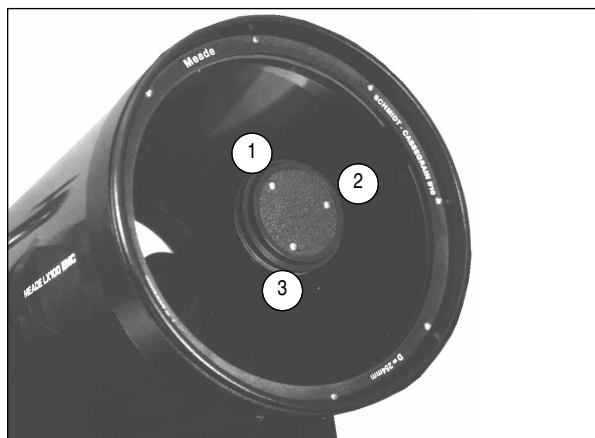

Fig. 26: Collimation of the Optical System. (1), (2), (3) Set screws for adjusting collimation.
- To make collimation easy, the only adjustments possible on the 8", 10", and 12" LX200 come from the three set screws (1, 2, and 3, Fig.26) located at the edge of the outer surface of the secondary mirror housing.